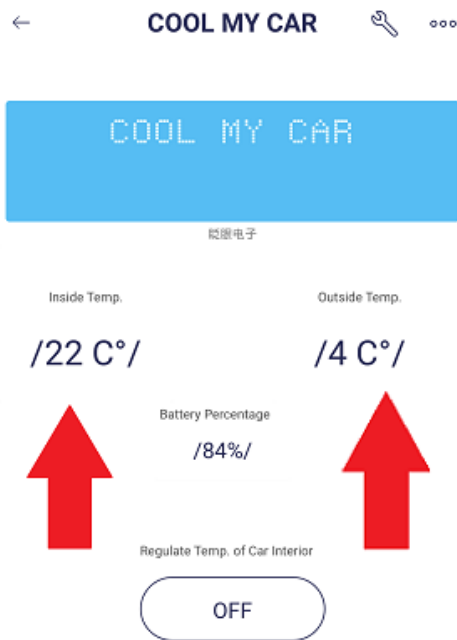

Figure 4: Inside and Outside temperatures view in App
- Figure 4: Inside and Outside temperatures view in App